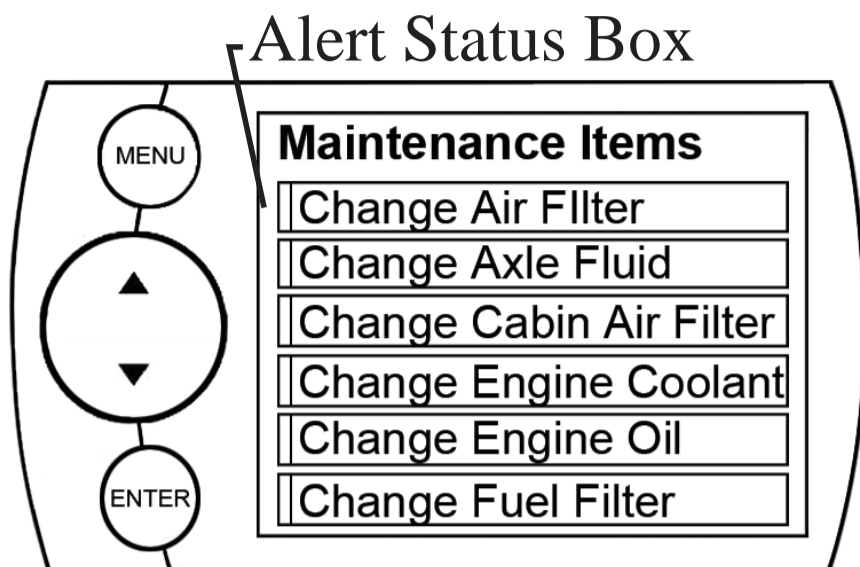

Figure 15
Other Maintenance Items not listed in Figure 15 may include:
**NOTE:** Refer to Figure 15. Once a Maintenance Item is turned on, the Alert Status Box to the left of the item will light up. If it is green, the item is not yet due for service. If it is yellow, the item is about to be